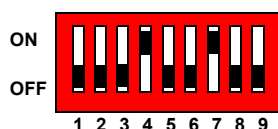

FIGURE 1. INITIAL DIP SWITCH SETTINGS
Step 1: Switch on bit 4 and bit 7 of the Dip-switch. Leave all other bits off, see Figure 1